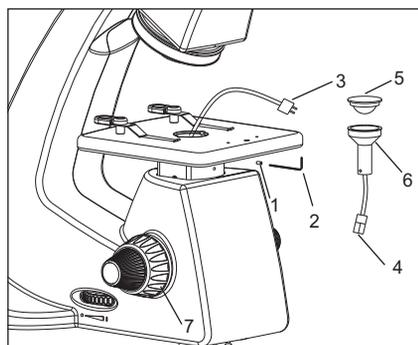

Fig. 8
1. Raise the stage to the highest position by rotating the coarse focus knob (7) clock wise. See figure 8.
2. Use allen key 3mm (2) to unlock the screw (1) from the stage to un-secure LED assembly.
3. Detach the LED assembly from connectors (3 & 4) by gently pulling them apart. Secure the lower part of the connector (3) with the stage clip to avoid it from slipping inside.
4. Remove the condenser system (5) by rotating it anti clockwise.
5. Remove the LED assembly (6) and replace with new LED assembly.